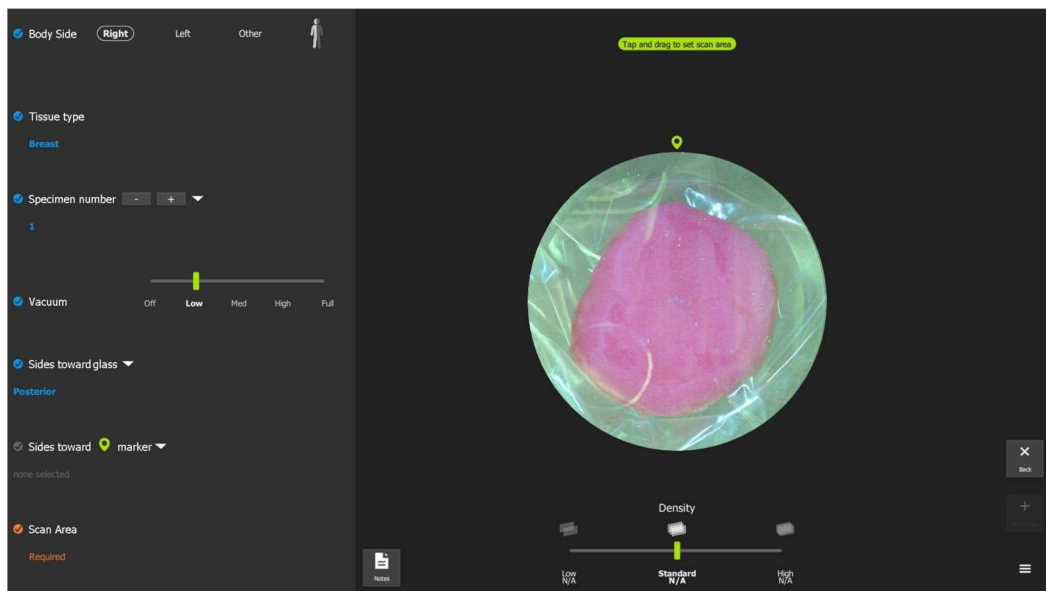
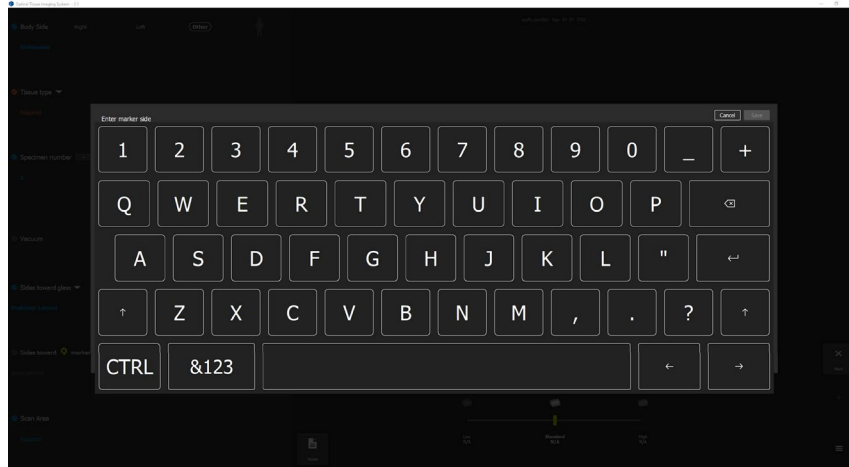

Figure 6: Scan Setup Screen
Figure 18: Scan side OTHER Screen
3. Scan Setup Screen (see Figure 6)
There are multiple parameters on the Scan Setup Screen, including: Body Side, Specimen Number, Orientation, Vacuum Level, Scan Area, and Scan Density (Figure 6).
Once initialization is complete, the user will see the Scan Setup Screen (see Figure 6). Select the Body Side from which the specimen was excised: **RIGHT**, **LEFT** or **OTHER**. If **OTHER** body side is selected, a text box will appear, prompting the user to enter in the **Body Location** using the onscreen keyboard.
To continue, select the side of the specimen to scan (see Figure 6). Multiple scan sides can be selected to fully define the side of the specimen in contact with the imaging window. If **OTHER** scan side is selected, an onscreen keyboard will appear prompting the user to enter the name of the surface being scanned as seen in Figure 18 below.